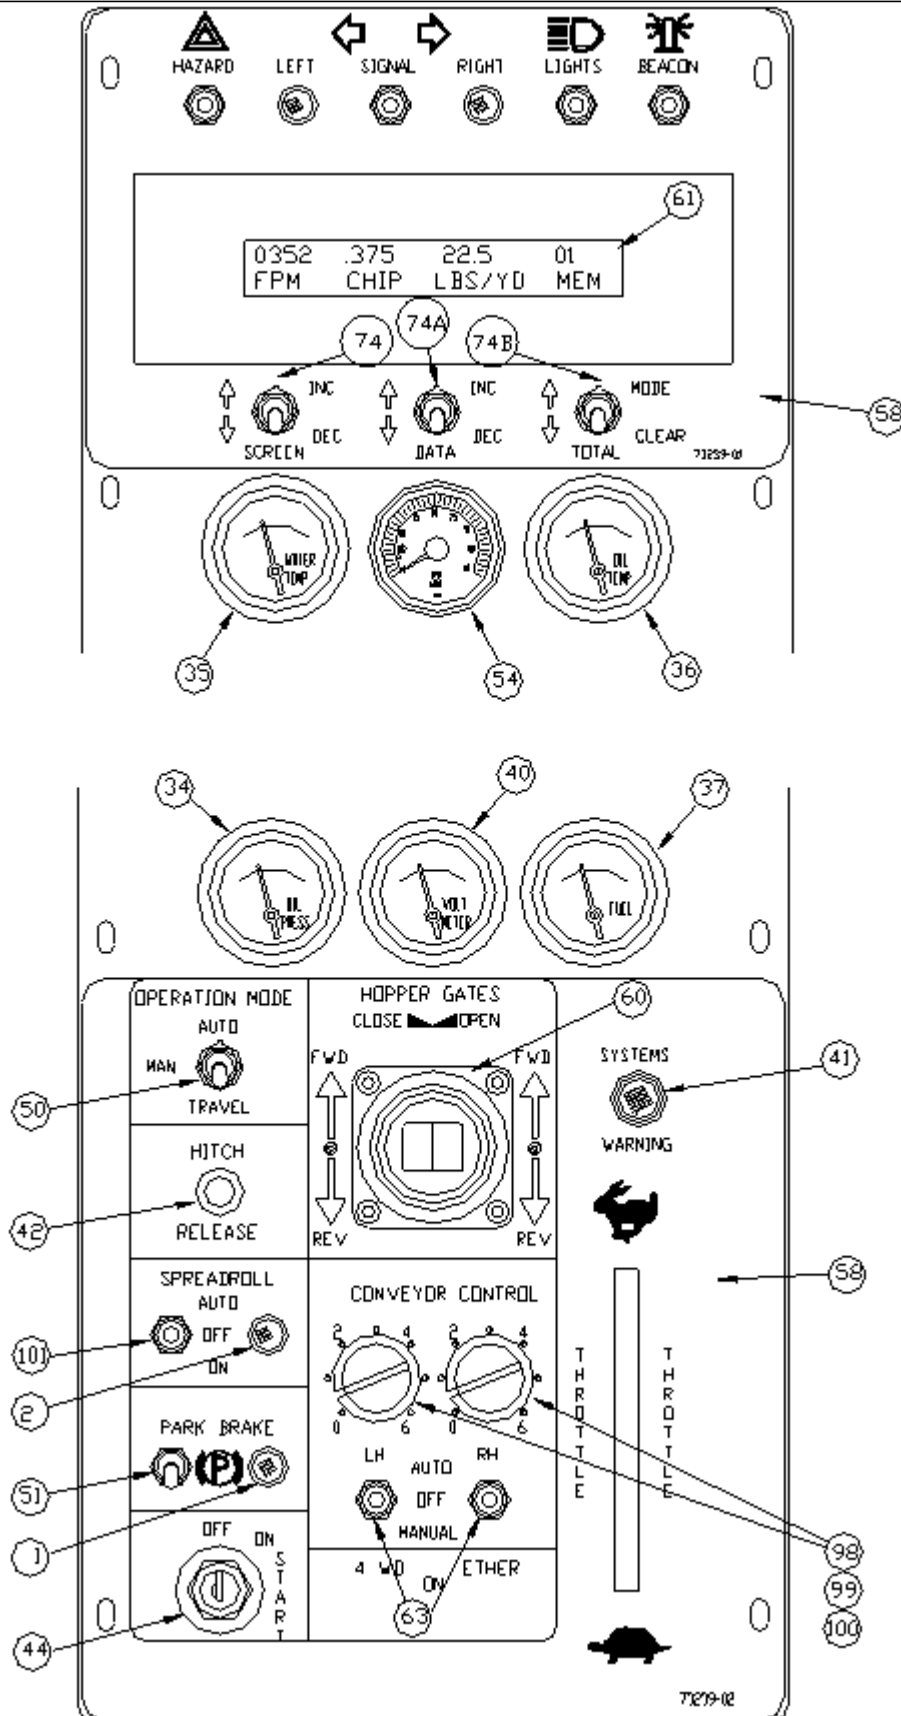

Figure 6
equipment. The pedal (or lever) controls the height of the hitch to attach to the truck pull bar. The hitch will automatically lock and can be released by using the **push button located on the control panel (Item 42, figure 6)** or, if equipped, the optional button at the right walkway.
The numbers in parenthesis () refer to item numbers in Fig. 6. The intended use of this unit is to spread aggregate at a precise rate. This is accomplished by using a processor to monitor the speed of the unit and the position of the hopper gates. The speed sensor is mounted in one of the wheel motors and the gate position sensor is located on the right side of the aggregate hopper at the end of the actuating shaft. The **joystick (60)** controls the speed and direction of travel. The rocker switch on top of the joystick opens and closes the hopper gates. The gates will close automatically when the joystick is returned to NEUTRAL position, however the gates will not open automatically.